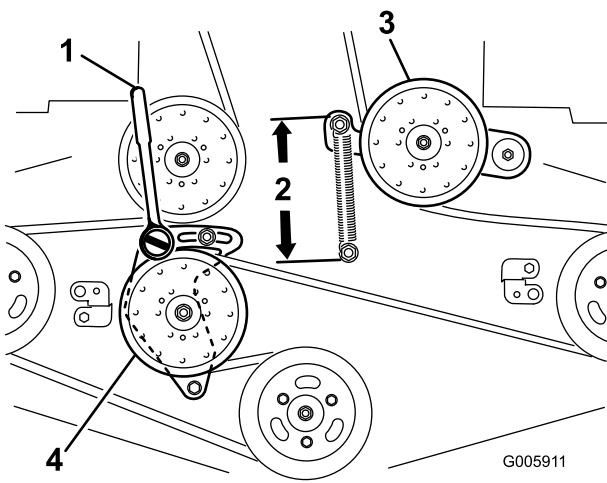

Figure 60
6. Loosen the fixed idler arm and adjust it to relieve belt tension (Figure 60).
9. Insert a ratchet with a short extension or a breaker bar into the square hole in the fixed idler arm (Figure 60).
11. To increase the belt tension, rotate the ratchet or breaker bar counterclockwise to move the fixed idler arm until there is 16.5 cm (6-1/2 inches) between the spring hooks (Figure 60).